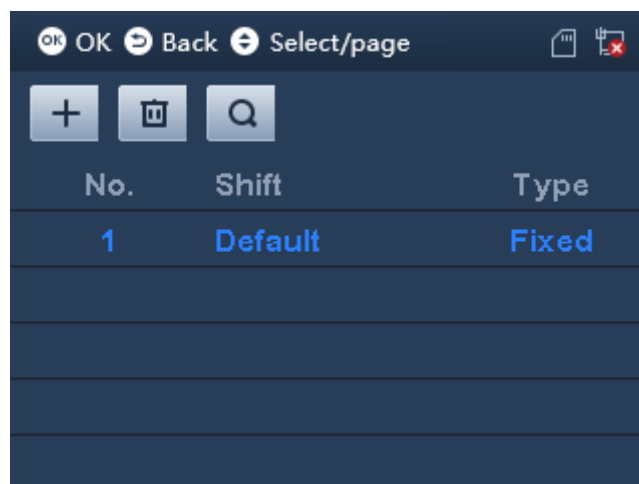

Figure 2-9
Step 1. Select Shift>Shift Setup>Shift, click , see Figure 2-9.